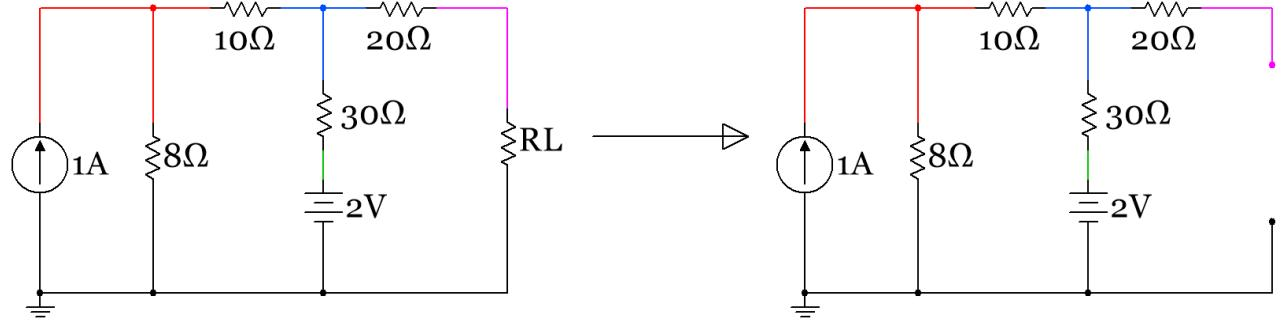
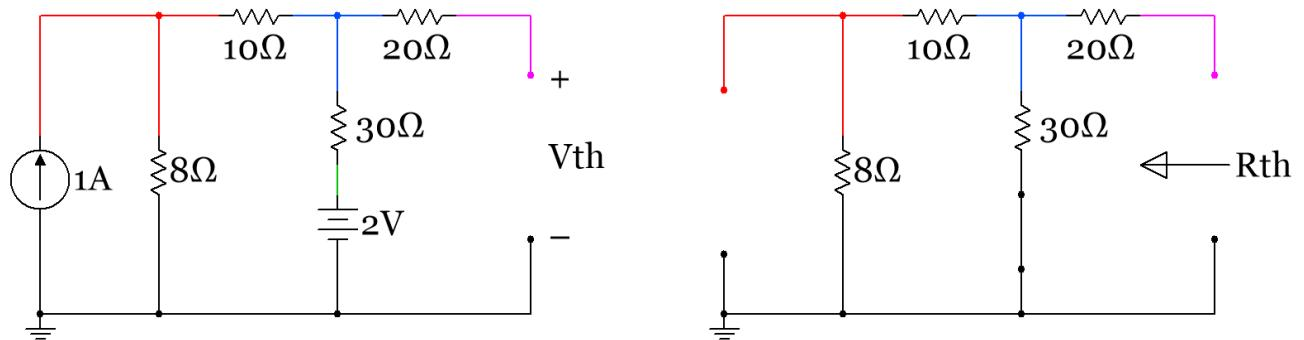
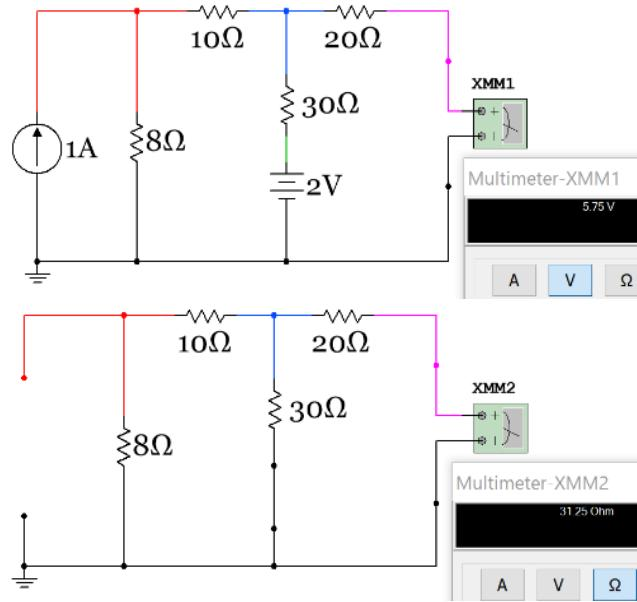

Figure 2.42: First step when asked to find the Thevenin equivalent circuit “external to RL ”
Figure 2.43: Sub-problem 1 (Find V_{th} – left circuit), Sub-problem 2 (Find R_{th} – right circuit)
Figure 2.44: Multisim used to measure V_{th} (5.75 V) and R_{th} (31.25 Ω)
The reason finding the Thevenin equivalent circuit is an important circuit technique is that it allows a complicated circuit with multiple voltage and/or current sources and as many resistors as imaginable to be replaced with one independent source and one resistor (in either Thevenin or Norton form). There is usually not a need to solve for the Norton equivalent circuit because it is just as easy to just find the Thevenin equivalent circuit and then transform it to Norton form using the simple method explained in section 2.1. You can find the Thevenin equivalent circuit "external to" a specific resistor in a circuit by first removing that resistor from the circuit as shown in Figure 2.42.
1. **Find R_{th}** (or R_n) by “zeroing out” all sources (short voltage sources & open current sources) and combine resistors towards the spot in the circuit (i.e. where RL was removed in Figure 2.42) where you are finding the Thevenin equivalent circuit “external to” as shown in Figure 2.43.
2. **Find V_{th}** by calculating the open circuit voltage across the spot in the circuit where you are finding the Thevenin equivalent circuit “external to” as shown in Figure 2.43..
Multisim can be used to determine V_{th} and R_{th} by using Multimeters in Volts and Ohms mode respectively. Figure 2.44 shows how to set up the measurements in Multisim.
Example 2.18) determine the Thevenin equivalent circuit external to RL in Figure 2.43 by calculating V_{th} and R_{th} and compare the results to those measured by Multisim in Figure 2.44.
Sub-problem 1 – Find R_{th} by combining resistors in a similar fashion as done in section 1.2. In Module 1 you were advised to start with combining the resistors as far away from the voltage or current source as possible. For Thevenin equivalent circuit problems you should start with combining resistors as far away from the spot in the circuit where the R_{th} is to be found (as shown by the arrow in Figure 2.43). The following figure shows how R_{th} is calculated with the circuit redrawn each time a resistor is combined. As shown in Module 1 if you become skilled in combining resistors you could write the equation for R_{th} by inspection as: $R_{th} = [(8+10) \parallel 30] + 20 = 31.25 \Omega$
Sub-problem 2 – Find V_{th} by solving for the open circuit voltage shown in Figure 2.43. The easiest way to do this is to transform the 1A current source to a voltage source so a one loop circuit is left. Notice that the 20Ω resistor is in series with an open circuit so it has no effect on V_{th} (No current flowing through it means no voltage drop across it). The 20Ω resistor only has an effect on R_{th} in this circuit. **The following figure shows the circuit transformed and the 20Ω resistor removed since it has no effect on V_{th} .**